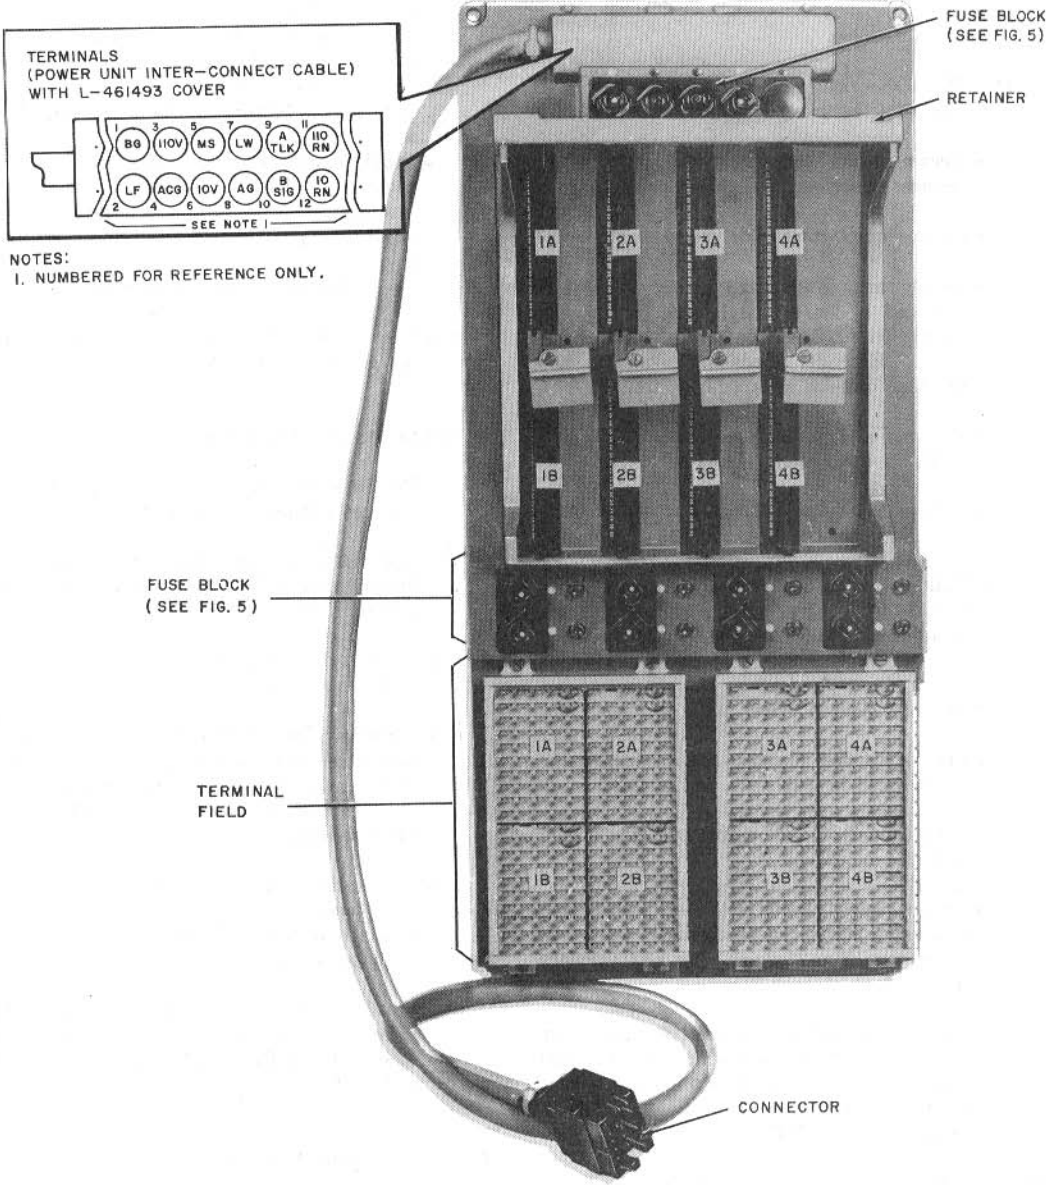

Fig. 1—620A2 Modular Panel
- Retainer and guide assembly serve to lock KTUs in connectors (Fig. 1).
**C. 620A2 Modular Panel (Fig. 1 and 2)**
| 7981              | 79829081      | 19-, 20-, 29-OR 30-TYPE | DESCRIPTION         | DESIGNATION | POWER UNITJACKS AND92A CONN.BLK. | MOD. PANELINTERCONNECT(FIG. 1) | MOD. PANEL9138/9148CONNECTOR |